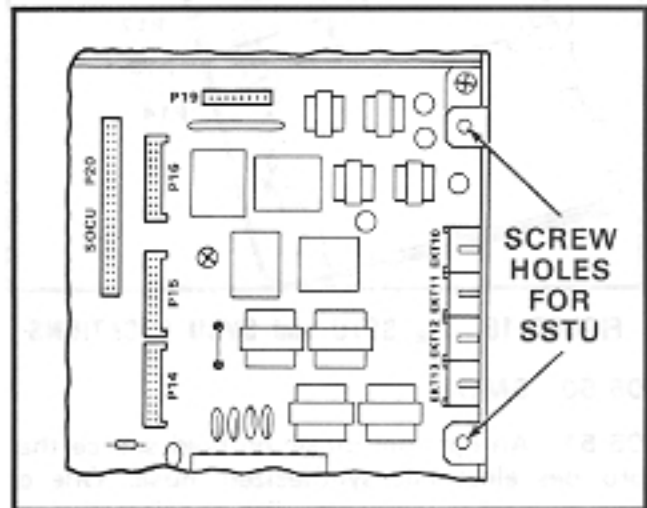

FIGURE 9—S_e SSTU and SVCU LOCATIONS
05.42 For adding stations 14 ~ 17, refer to Figure 9, and insert the three SSTU 10-pin connec-
05.72 Insert connector P1 on the SVCU into the P20 connector on the SMAU (Figure 9).